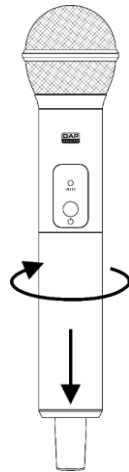

Fig. 08
- 01) Turn the battery cover clockwise, in order to loosen it. Remove the battery cover (Fig. 08).